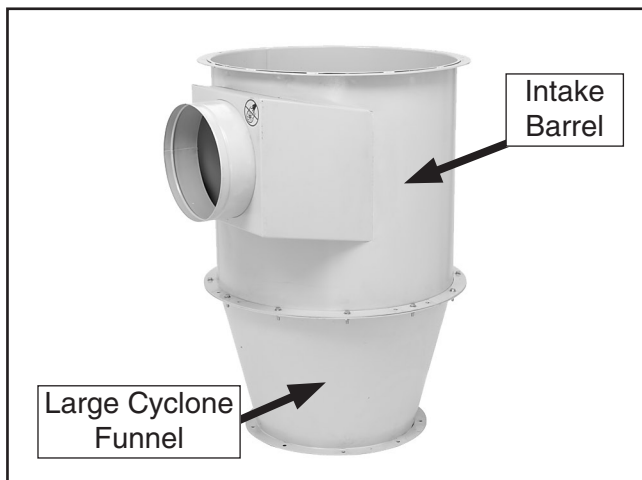

Figure 18. Intake barrel and large cyclone funnel.
5. Connect the intake barrel and large cyclone funnel with (12) $\frac{5}{16}$ "-18 x $1\frac{1}{4}$ " hex bolts, (24) $\frac{5}{16}$ " flat washers, and (12) $\frac{5}{16}$ "-18 hex nuts in the mounting holes—excluding the left and right hole of the groups of three (see **Figure 18**).